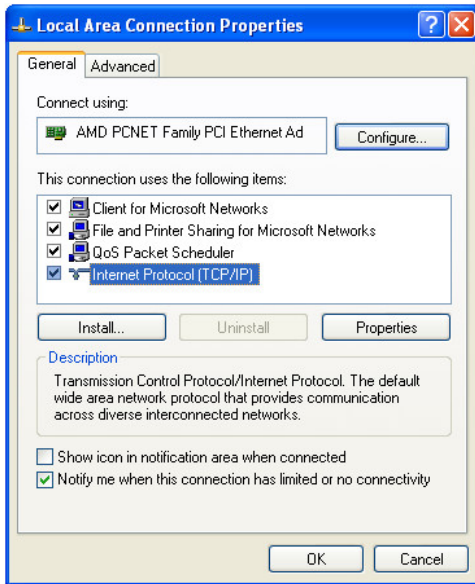

Fig. B.1 – Connection properties window in Windows OS
- 2) Click the icon of the connection with the right button, and select "Properties" in the drop-down menu. The Properties window opens (see Fig. B.1).